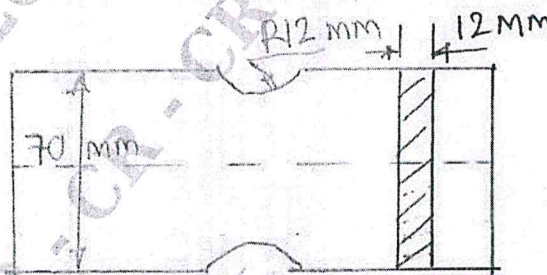

Fig. Q2 (b)
b. A rectangular plate with semi-circular groove of radius 12 mm as shown in Fig. Q2 (b) is subjected to, (i) Tensile force of 10 kN (ii) Bending moment of 15 N-m. Determine the maximum stress induced in each case. (10 Marks)